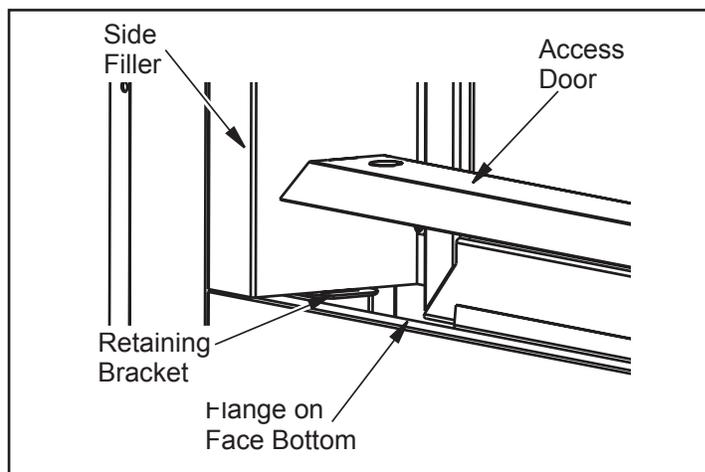

Figure 40 - Access Door for See-Thru Applications
1. Place access door into rectangular opening in front of the glass door with the slanted side facing forward. The slanted surface will slide underneath the flange of the bottom face. Insert tabs on side of access door into slots on retaining brackets (See Figure 40).
2. Remove access door (see Figure 40, page 25).